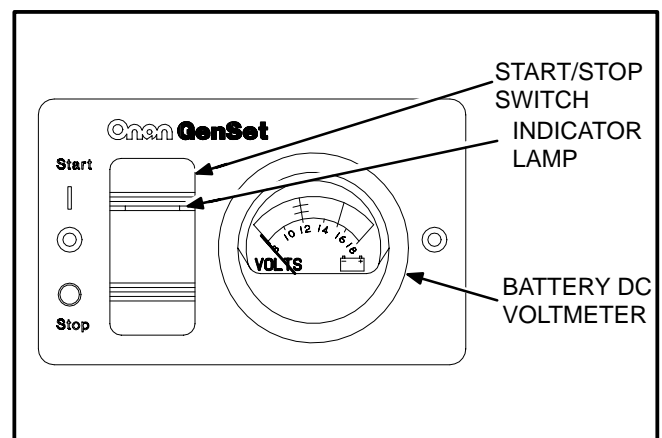

FIGURE 7-6. REMOTE PANEL WITH START/STOP SWITCH AND DC VOLTMETER
- Remote panel with start/stop switch, indicator lamp, and battery DC voltmeter (see Figure 7-6).